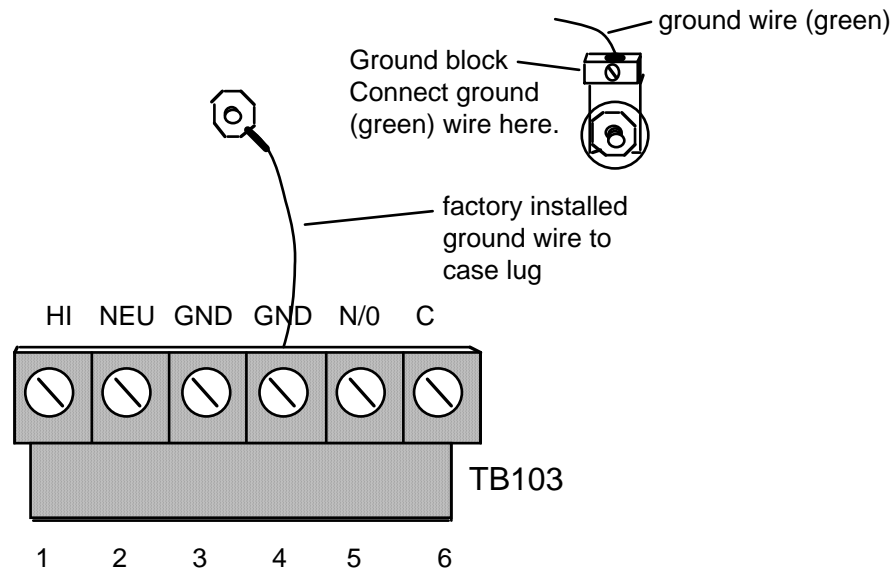
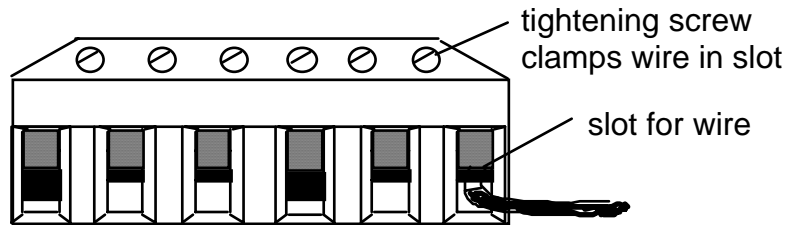

Figure 2-3. Wiring connector and ground block for AC power and stop circuit.
Figure 2-4. Inserting wires into connector
6. First connect the ground (green or green/yellow) wire. It must be connected to the ground block as shown in Figure 2-3, not to "GND" pin on the connector. The ground block is located on the wall of the enclosure at top right. To connect to ground block, strip ground wire about 1/4" (6.4 mm) from end, loosen screw on block, slide wire in hole, and tighten screw to pin wire in place.
- NOTE:** A ground wire is attached from the connector to a case lug as shown in Figure 2-3. Leave the ground wire attached to the connector while making connections. *If you remove this wire in order to pull the connector all the way out of the enclosure, be sure to replace it when done.*
8. Connect wires to the L-shaped terminal block as shown in Figure 2-3. For 115 Vac, connect black wire to HI slot and white wire to NEU. (For 230 Vac connect black wire to HI slot and red wire to NEU). To connect a wire, find the correct slot and loosen the screw over that slot by turning it counterclockwise (see Figure 2-4). Strip the correct wire for this slot 1/4" (6.4 mm) from end. Insert bare wire into slot 90% of the way. Tighten the screw. The metal tooth inside the slot will clamp down on the bare wire for a tight connection. Make sure the metal tooth is clamped down on the bare part of the wire, not on the insulation. If it is on the insulation, you will have a bad connection. Connect both wires and double-check connections when done.
10. Plug the connector back into its terminal. Double check connections with markings at the connector base to make sure you did not wire it backwards. (Note: first "GND" from left in Figure 2-3 is not used).